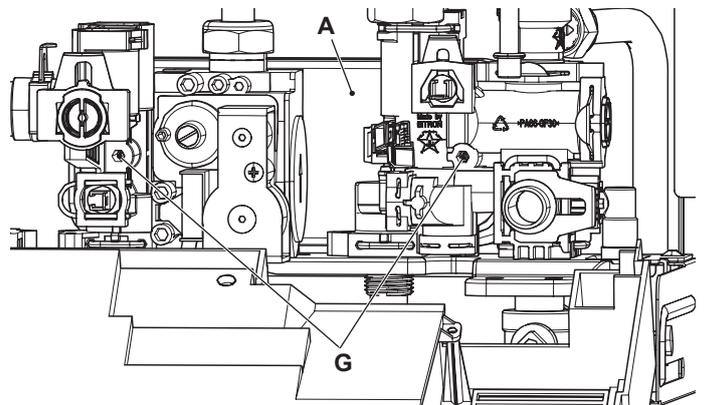

Figure 6.4
- 6 Completely unscrew the Allen key screws G (Figure 6.4) which hold the exchanger to the plastic groups.